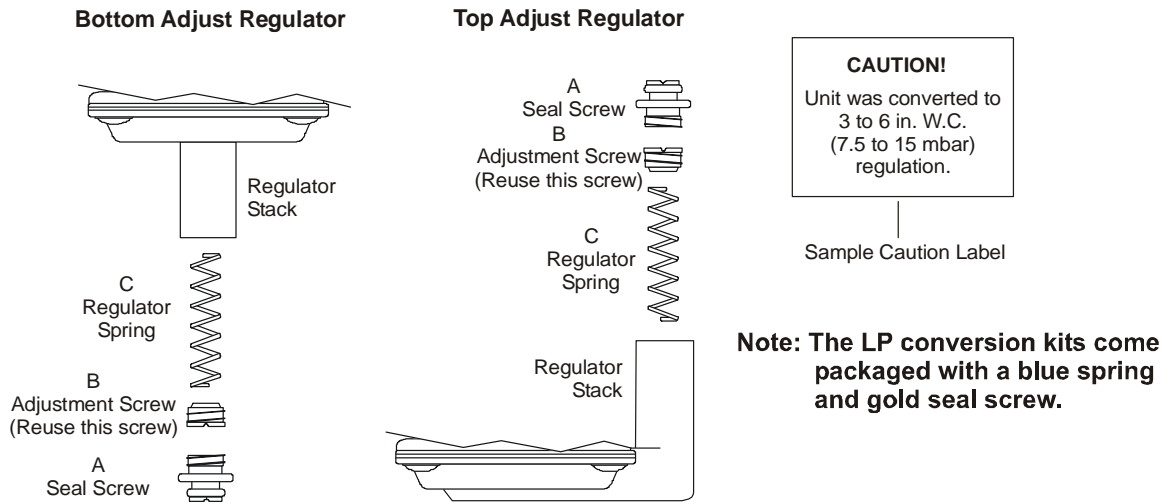

Figure 1: Regulator and Conversion Kit Parts
4. Remove Seal Screw (A), Adjustment Screw (B), and Regulator Spring (C) from the regulator stack (Figure 1).